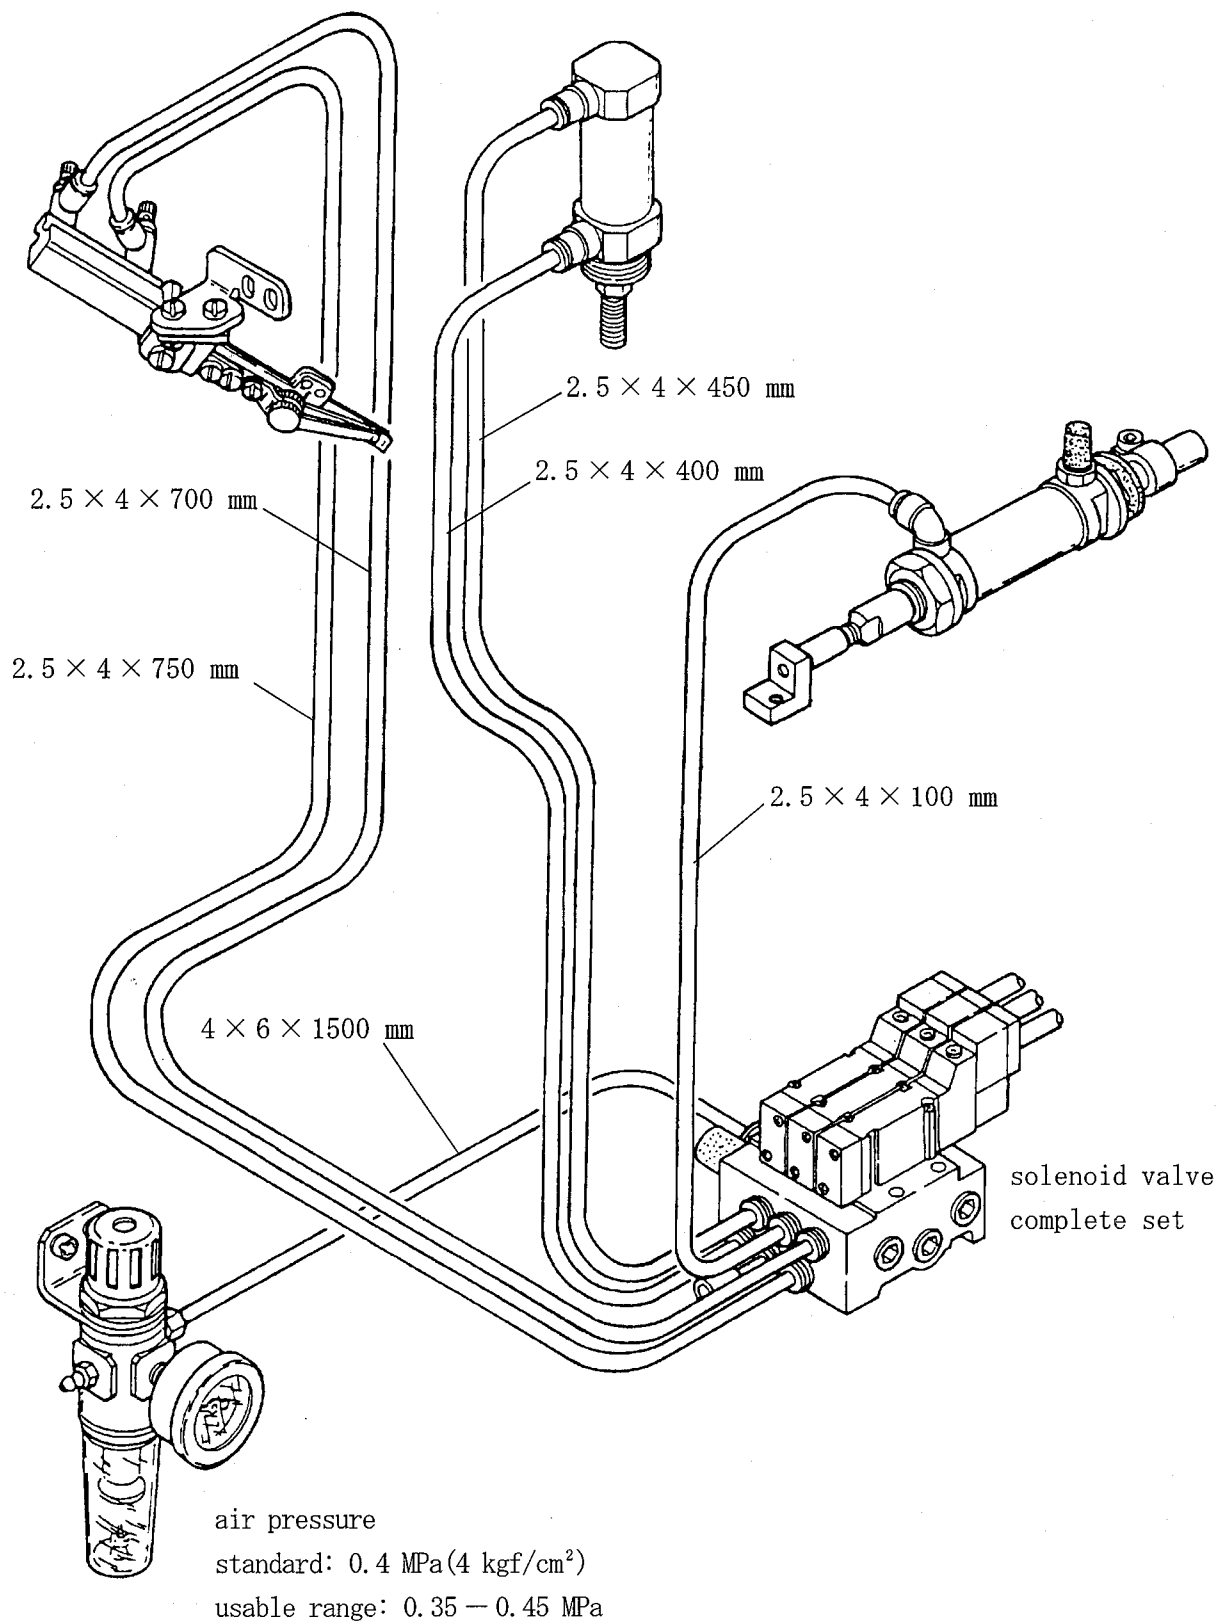

Fig. 10
1. Figure 10 shows three solenoid valves.